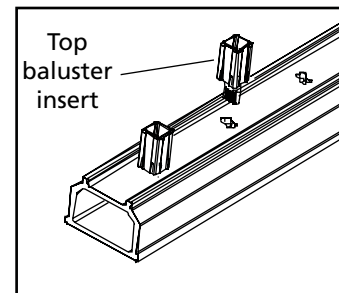

Figure 23
18. Fully engage the top baluster insert (Figure 23) into each baluster slot in the top rail. Ensure that the top baluster insert is oriented the same as the corresponding bottom baluster insert.